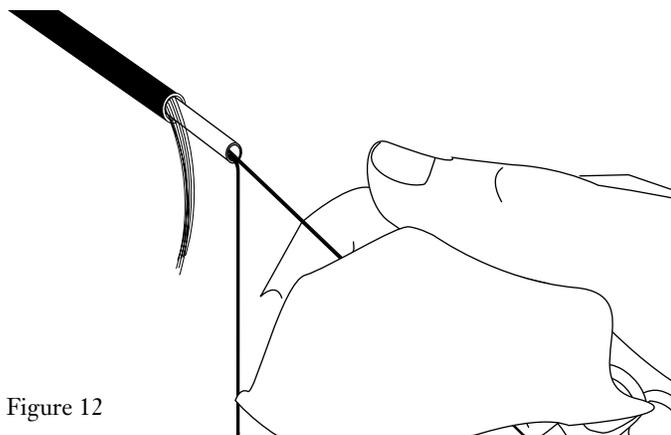

Figure 12
**5.4** If the buffer tube is Gel-free, carefully cut out the water block yarns and proceed to step 6.1. If filling compound is present, use a Fiber-Clean wipe to clean the fibers. Use a dry tissue for final cleaning. (Figure 12).